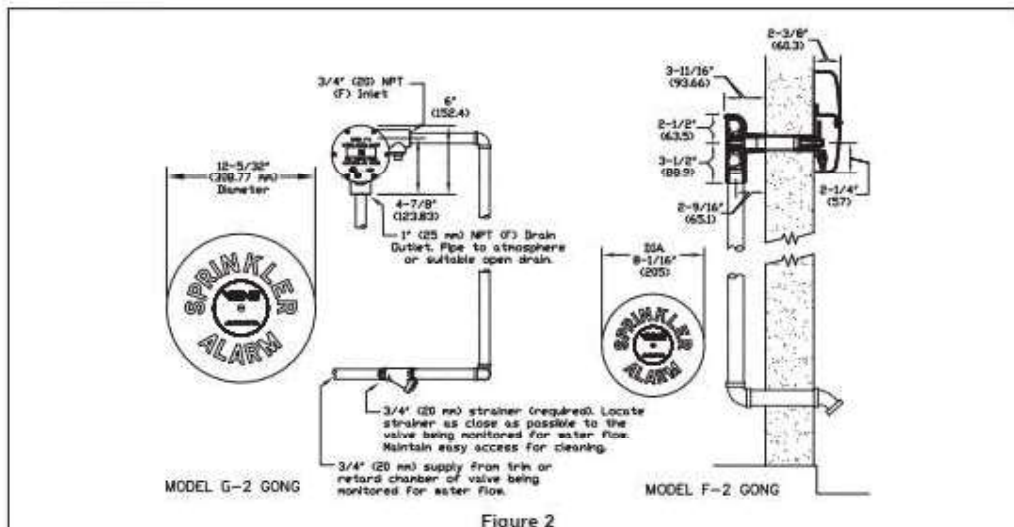

Figure 2
1. Extension Mounting Cup: Viking Part Number 05957B, Material: 14-Gauge Cold Rolled Steel, UNS-G10080, coated with black E-coat. The extension mounting cup is required when the wall thickness is less than 3" (76.2 mm). Refer to "INSTALLATION" instructions. See Figure 2.
2. Closure Plate: For use with Model F-2 only, Viking Part Number 05820B, Material: 16-Gauge Galvanized Steel, UNS-G10080. The closure plate is required when the Model F-2 Water Motor Alarm gong is mounted on an irregularly surfaced wall. It serves to prevent birds from entering the inside of the gong. The closure plate also serves as a mounting plate for sheet metal walls. Refer to "INSTALLATION" instructions. See Figure 2.